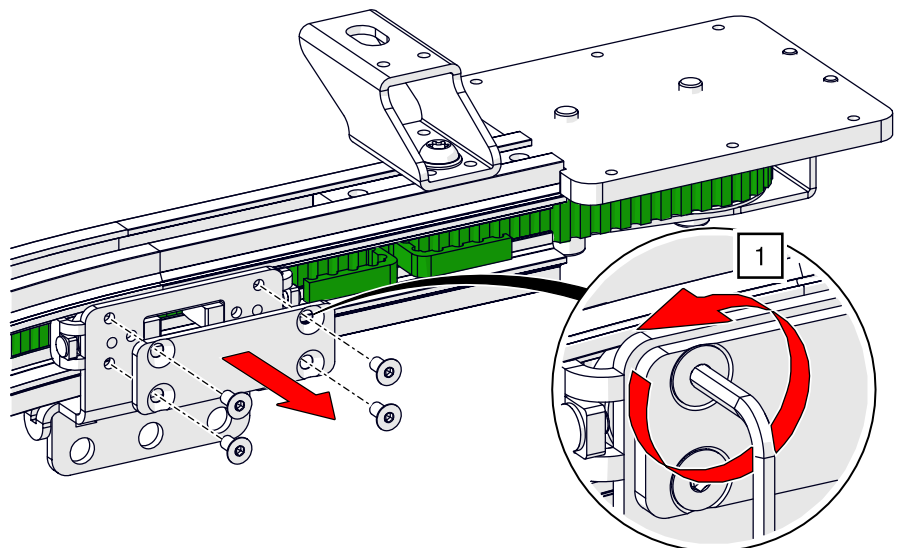

Fig. 83: Timing belt installation – Loosen clamping plate on master runner
1. Loosen the clamping plate on the master runner with an Allen key AF 4 (see Fig. 83).